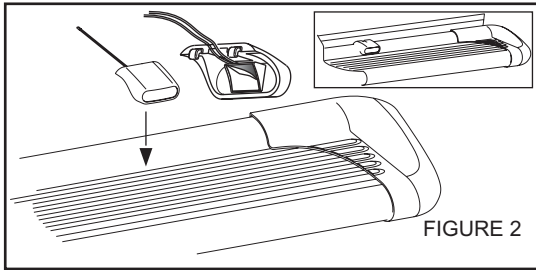
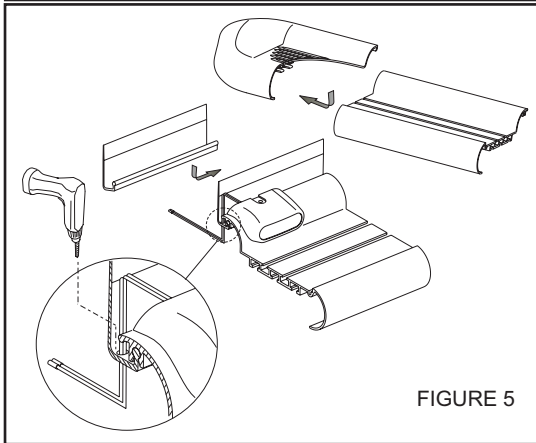

FIGURE 2
FIGURE 5
STEP 7. For Sure-Grip Running Boards, slide closure strip as shown. Set lights (if purchased) in appropriate location. Attach to Sure-Grip Running Board as shown. **SEE FIGURE 2.** Drill hole through plastic strip and run wires as shown. **SEE FIGURE 5.**